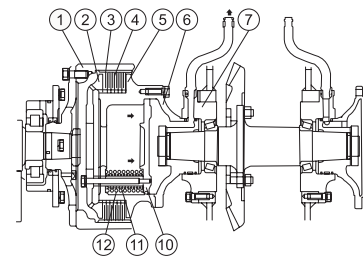

Figure 3-33
When the steering lever is released, the oil pressure is cut off, and due to the pressure of the big & small springs, the above parts are forced to move in the direction indicated in the figure, to enable the inner tooth (4) and the outer friction disk to become engaged, to realize the transmission of power. (See Figure 3-33)